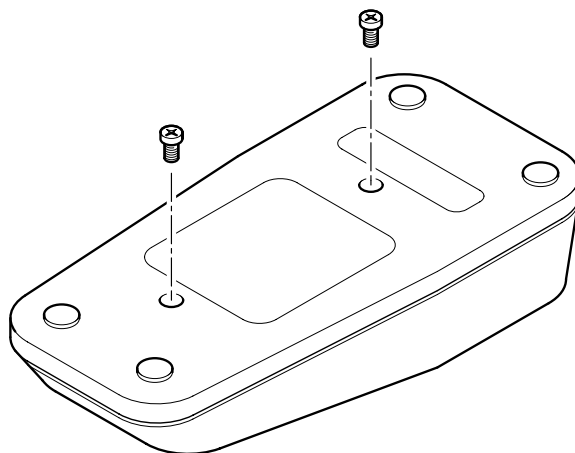

Figure 18: Case screw removal
1. (Figure 18) Place the Dual Charger upside-down on a flat work surface. Remove the two case screws.